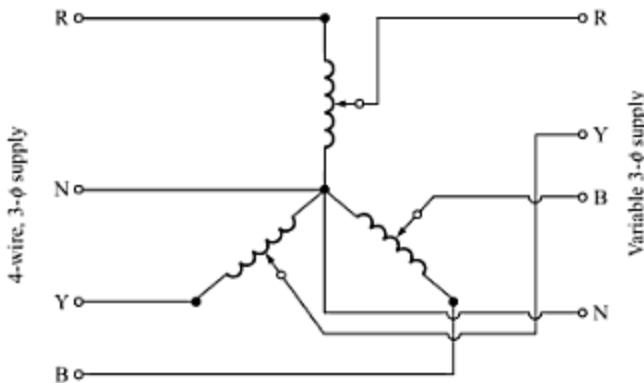

Fig. 1.13 Variable 3-φ supply.
*Variable AC Supply* can be obtained by using an auto-transformer with a variable tap (also known as ‘variac’ or ‘dimmerstar’), as shown in Fig. 1.12. For 3-phase supply, we use a 3-phase variac (Fig. 1.13).